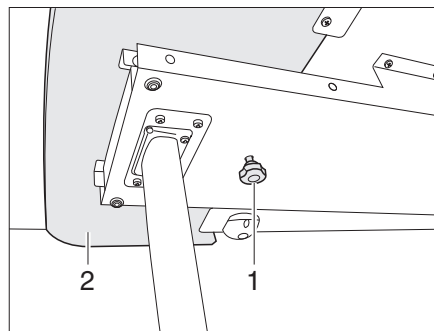
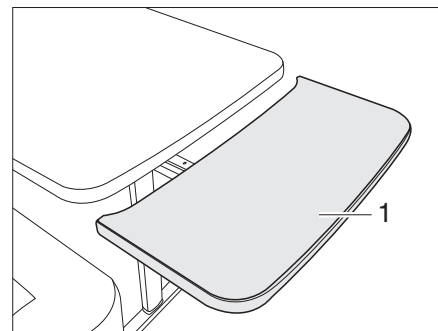

Fig. 94 Lock for table-top extension
Fig. 95 Table-top extension
- Loosen knurled screw (Fig. 94,1).
- Pull out the table-top extension (Fig. 94,2) as far as possible (Fig. 95).
- Guide table-top extension (Fig. 95,1) upwards in a circular movement. The table-top extension lies flush with the table-top.
- Pull table-top extension (Fig. 95,1) away from the table-top as far as it will go and press downwards against the resistance of the retaining springs. The table-top extension moves downwards in a circular movement (Fig. 95).
- Tighten knurled screw (Fig. 94,1).